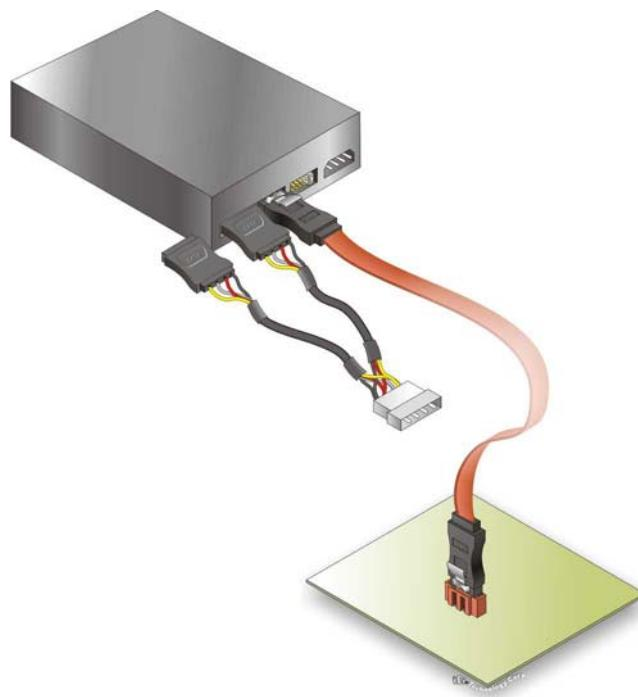

Figure 4-12: SATA Power Drive Connection
**Step 3: Connect the cable to the SATA disk.** Connect the connector on the other end of the cable to the connector at the back of the SATA drive. See Figure 4-12.
**Step 4: Connect the SATA power cable.** Connect the SATA power connector to the back of the SATA drive. See Figure 4-12.